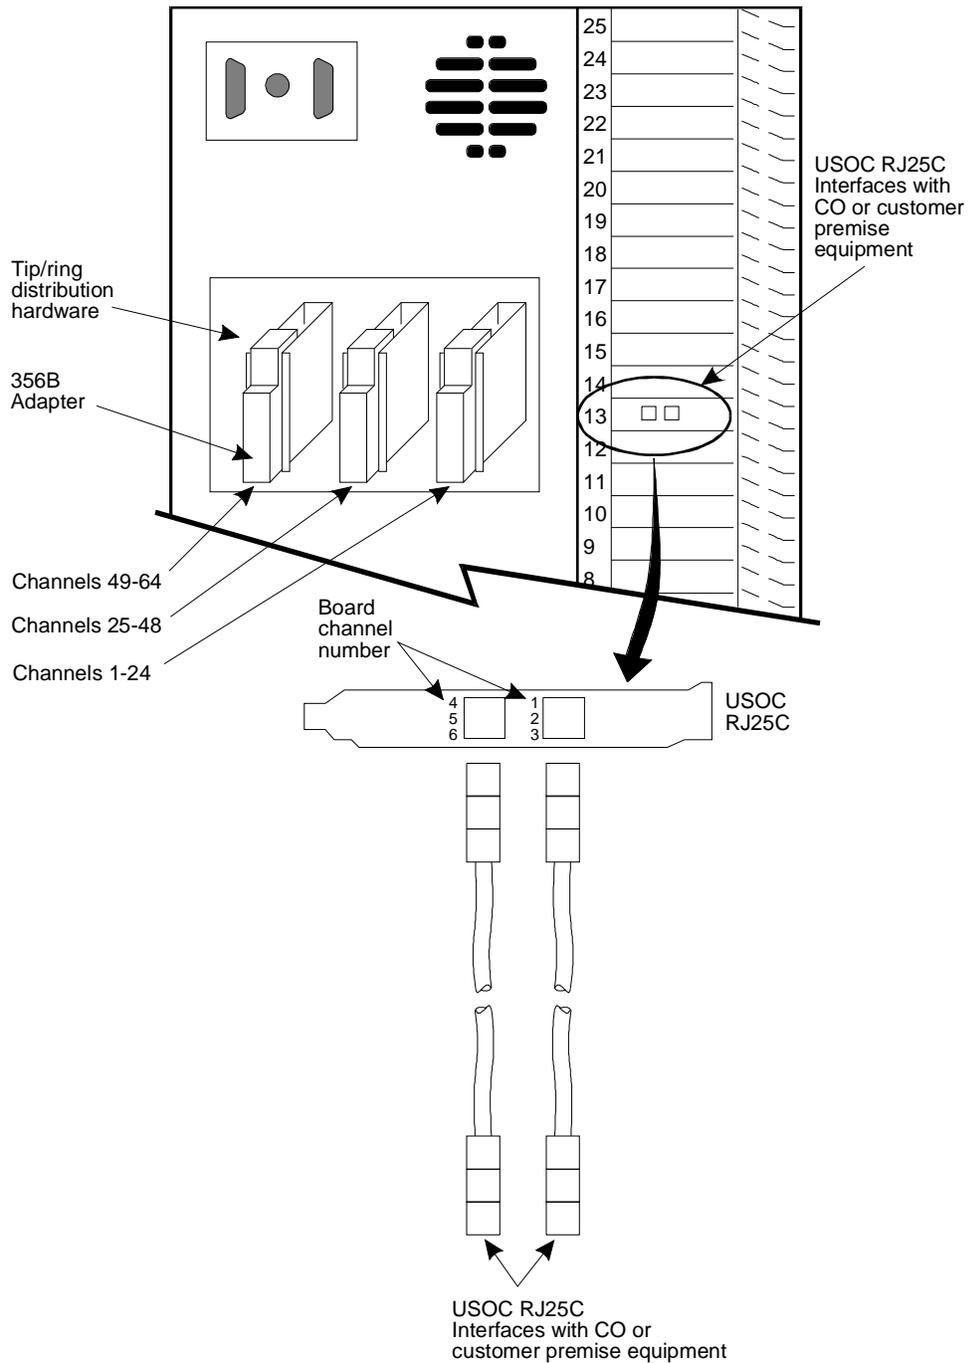

Figure 8-4. Tip/Ring Distribution Hardware after Assembly
6. Install the distribution mounting plate on the back of the MAP/100 (Figure 8-4).
The u-shape of the bracket should face out with the grounding lug towards the MAP/100 surface (Figure 8-4).